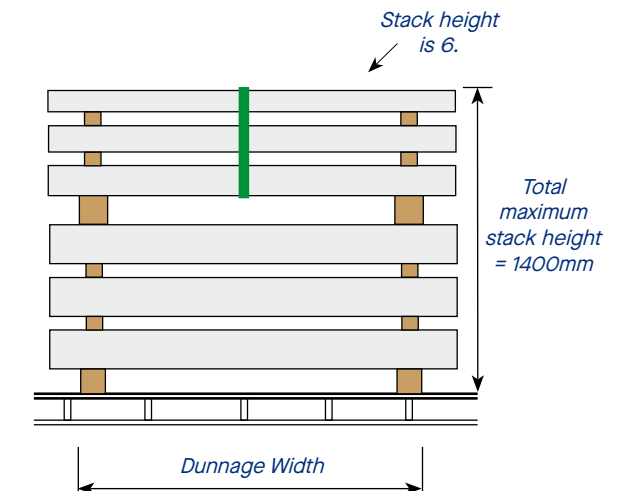

Fig 3.5: Dunnage width to total stack height ratio must not exceed 1 to 1.5.
- ✓ The dunnage width to height ratio of the total stack must not exceed **1 to 1.5** to reduce the risk of toppling. (Eg. If the dunnage width is 800mm then the maximum stack height is 1200mm). (Fig. 3.5)
- ✗ Do **NOT** stack slit coils higher than **1400mm** from the trailer deck. (Fig. 3.5)